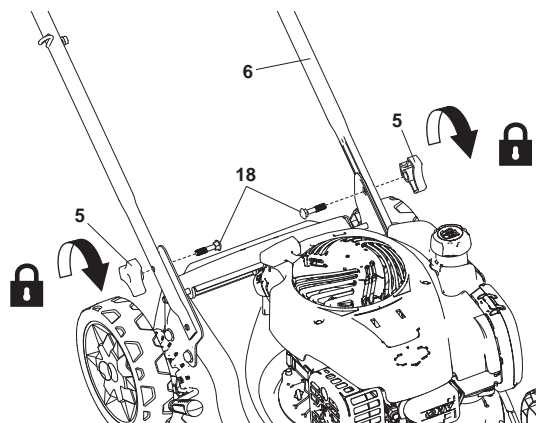

Fig. 3
3. Fix the lower handle bar (6) with the Arc-head blot M8X35 (18) to the handle supports (17) Fig. 3.